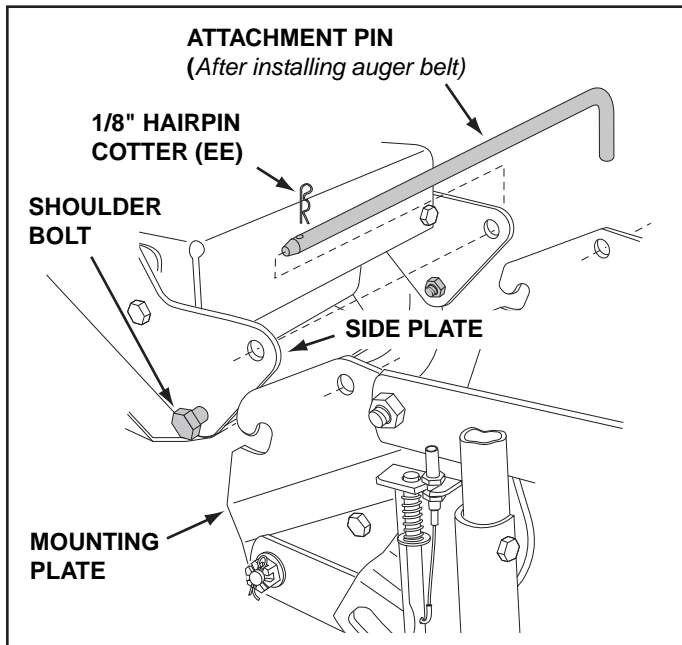

FIGURE 54
STEP 55: (SEE FIGURE 54)
STEP 58: (REFER BACK TO FIGURE 54 ON PAGE 24)
- Lift the front of the snow blower to align the holes in the mounting plates and the side plates. From the left side of the tractor insert the attachment pin through the holes. Secure it with by reinstalling the 1/8" hairpin cotter (EE).